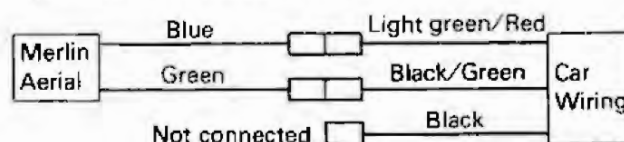

Fig.4
7. Connect the green and blue aerial wires as shown in fig. 4.